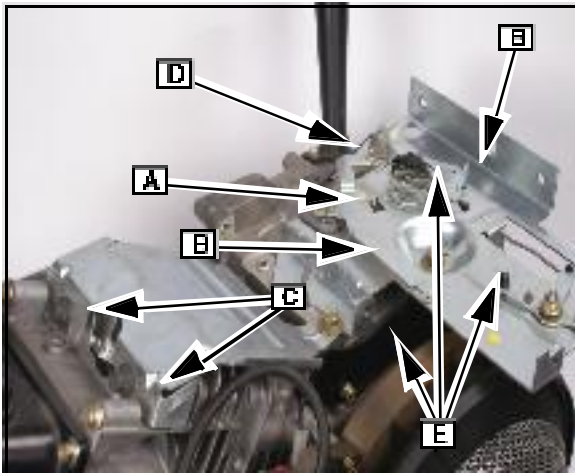

Fig. 12
- Remove governor lever. (A).
- Disconnect springs and links (B) from governor lever.
- Remove head bolts (C) that secure the control bracket to the cylinder head. When baffle is removed, re-install the bolts hand tight.
- Remove the oil fill tube screw. ([D] Fig. 12)
- Remove control bracket screws. ([E] Fig. 12).